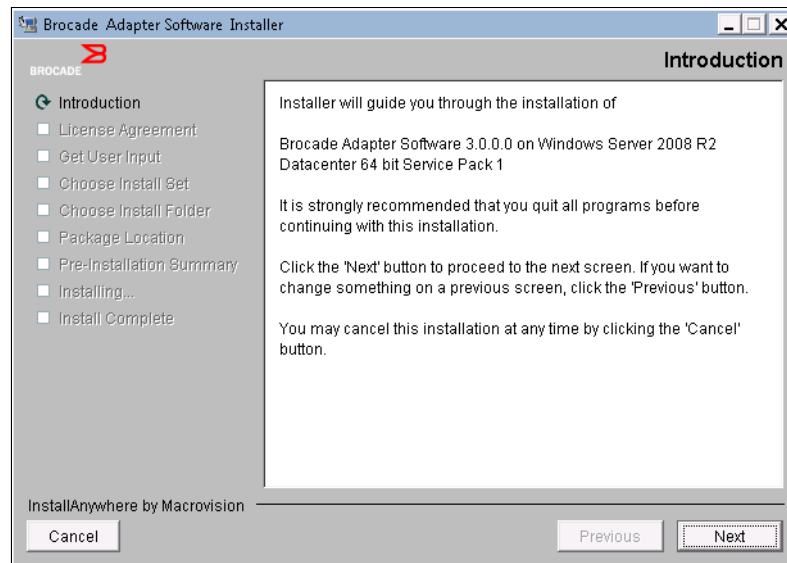

Figure 7-94 Introduction panel
2. In the Introduction panel (Figure 7-94), click **Next**.